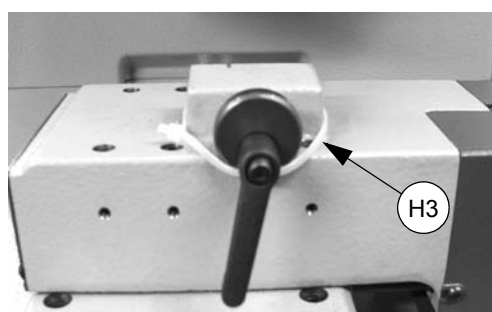

Fig. 26
**Attention: at initial start-up DO NOT CONTINUE. Zero out the axes and remove the tie wrap (H3) (fig. 26).**